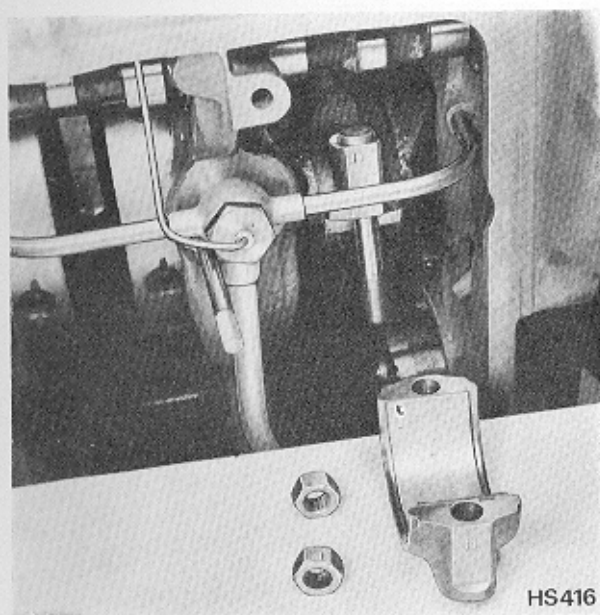

Fig. 50 Big End Bearing
- (e) Remove connecting rod nuts and cap; fit thread protectors (Fig. 50).